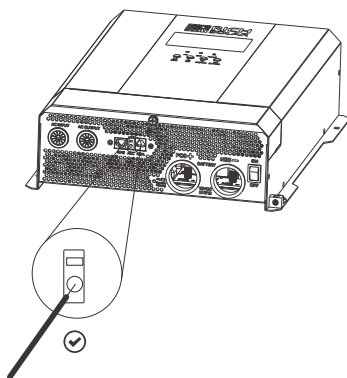

Figure 12 Ignition signal (ACC) input terminal
4. Locate the ACC input (ignition signal input) terminal. See Figure 12.